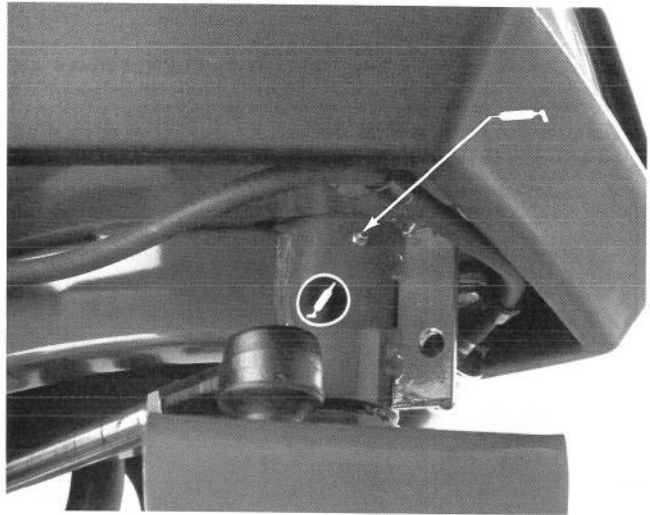
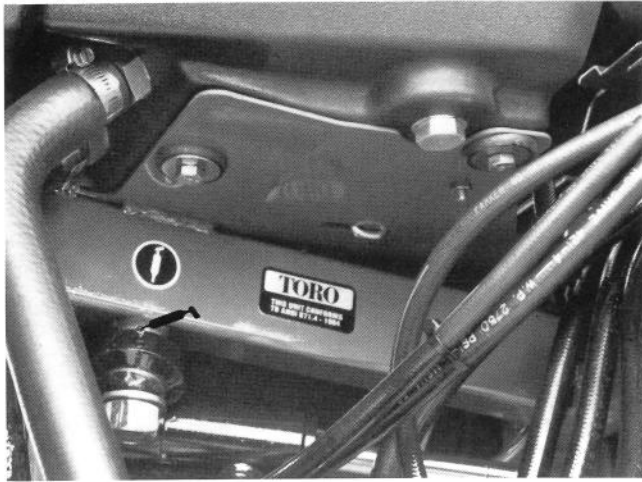

Figure 26
Figure 29
The traction unit bearings and bushings that must be lubricated are: Rear wheel bearings (1) (Fig. 25), Steering fork shaft (1) (Fig. 26), Lift arm pivot (3) (Fig. 27), Pivot hinge (3) (Fig. 27), Pull frame shaft and roller (12) (Fig. 28), Power steering cylinder (1) (Fig. 29), Mow lift pivot (1) (Fig. 30) and Lift cylinders (3) (Fig. 31)